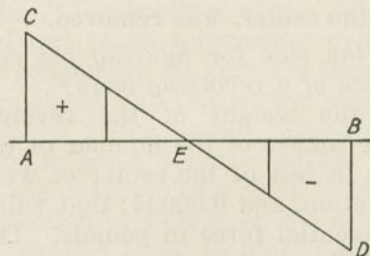

Fig. 256. Acceleration Diagram.
A. Fig. 256 shows in *A B* the length of the stroke on any convenient scale, and in *A C*, *B D*, the centrifugal force. The distance of a diagonal line from *C* to *D* from *A B* represents the accelerating or the retarding force at various points; being zero at mid-stroke, *E*.